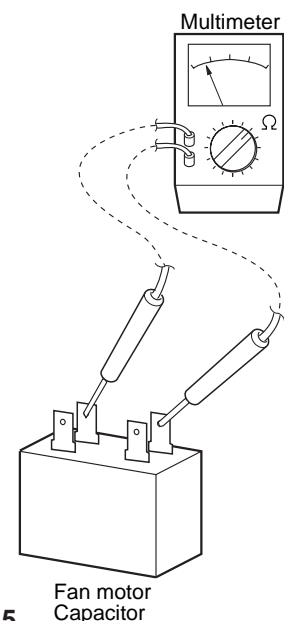

Fig. 45
⑤ **Fan motor capacitor Both in indoor and outdoor unit**
- Remove the lead wires from the capacitor terminals, and then place a probe on the capacitor terminals as shown in **Fig. 45**. Observe the deflection of the pointer, setting the resistance measuring range of the multimeter to the maximum value.